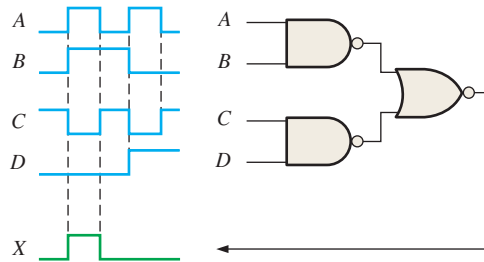

FIGURE 5-68
46. For the logic circuit and the input waveforms in Figure 5-68, the indicated output waveform is observed. Determine if this is the correct output waveform.